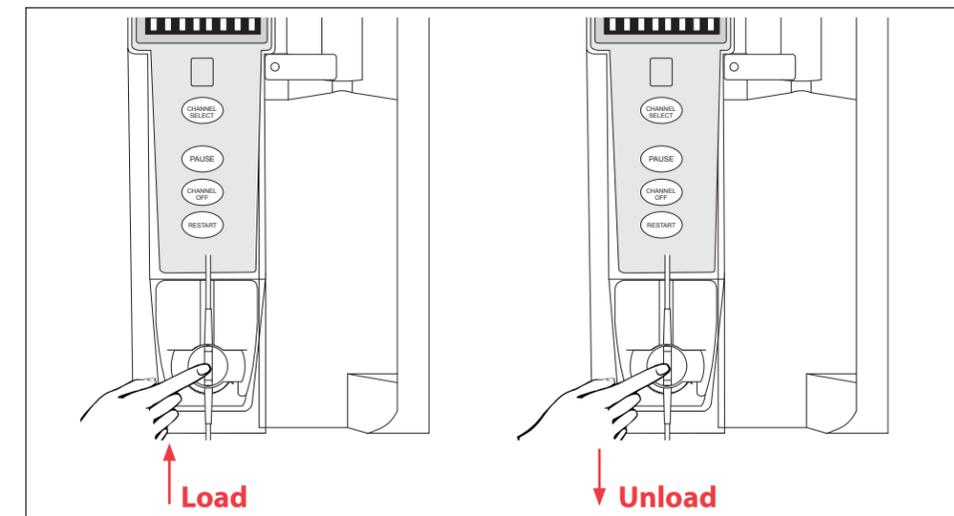

fig. 3
1. Insert pressure sensing disc with membrane facing device. Apply upward pressure until disc snaps into disc housing (fig. 3)
2. Remove the pressure sensing disc by applying firm downward pressure on pressure sensing disc (not tubing) until disc snaps loose from slot in pressure sensing disc housing (fig. 3)